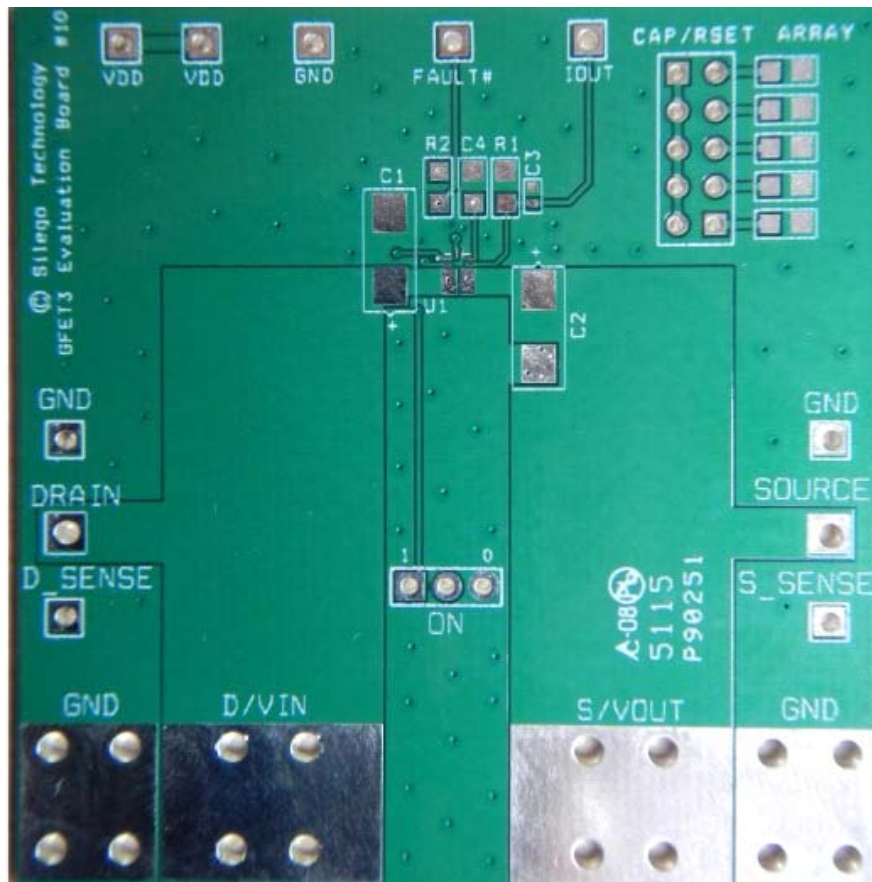

Figure 8. SLG59M1717V Evaluation Board
2. Since the VIN and VOUT pins dissipate most of the heat generated during high-load current operation, it is highly recommended to make power traces as short, direct, and wide as possible. A good practice is to make power traces with absolute minimum widths of 15 mils (0.381 mm) per Ampere. A representative layout, shown in Figure 8, illustrates proper techniques for heat to transfer as efficiently as possible out of the device;
A GFET3 Evaluation Board for SLG59M1717V is designed according to the statements above and is illustrated on Figure 8. Please note that evaluation board has D\_Sense and S\_Sense pads. They cannot carry high currents and dedicated only for RDSON evaluation.